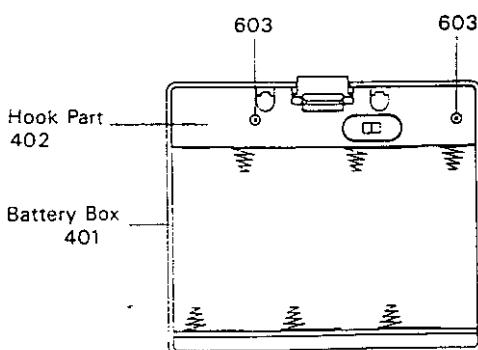

Fig. 6
1. Remove the two screws(603)fixing the Hook Part(402). Fig. 6
2. Hold the Hook Part(402)and pull out the Battey Box case(401)in the vertical direction. Fig. 6